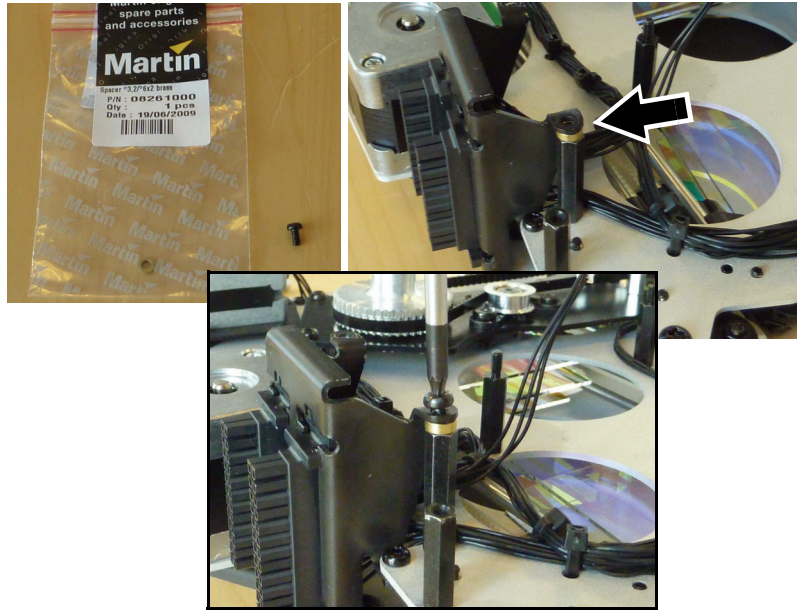

Figure 19
22. See Figure 19. Insert the brass bush (P/N 08261000) supplied in the kit between the multi-connector bracket and its original mounting pillar to take up the space left by the outer aperture plate you removed in step 4. Re-use one of the seven Torx M3 X 10 screws you removed in step 21. to fasten the multi-connector bracket back onto its original pillar with the bush acting as a spacer.